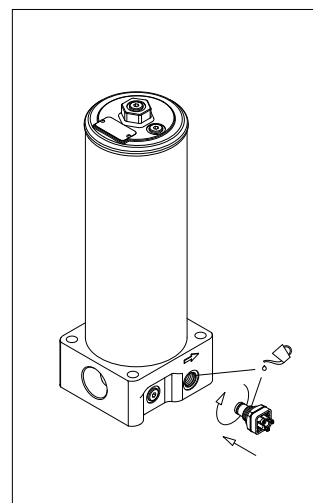

fig. 23
- (Fig. 23) Lubricate with the operating fluid the thread and the O-ring of the indicator body, then screw the indicator body in referring to the tightening torque table in paragraph 3